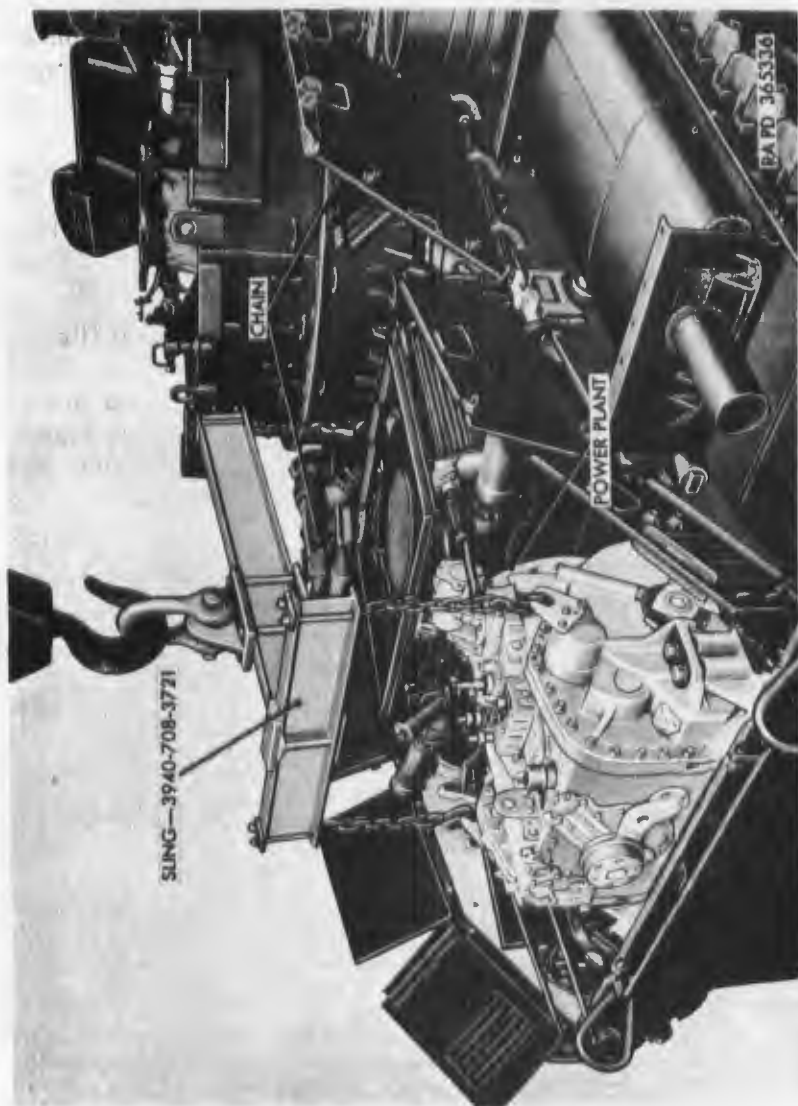

Figure 92. Power plant with lifting sling 3940-708-3721 installed.
Note. Front engine compartment grille door can be held in the open position with the chains provided (fig. 92).
- (1) Check to be sure that all disconnects have been accomplished (*d* above). Install engine and transmission lifting sling 3940-708-3721 (fig. 92) so that power plant will be level during lifting operation. During the first stage of removal, the front or accessory end of the engine must be kept slightly lower than the transmission to allow proper clearance at the base of the gun mount. This can be accomplished by having a man apply his weight, as necessary, on the accessory end of the engine. When engine is clear, carefully lift power plant from vehicle.
- (1) Install engine and transmission lifting sling 3940-708-3721 (fig. 92) on power plant.